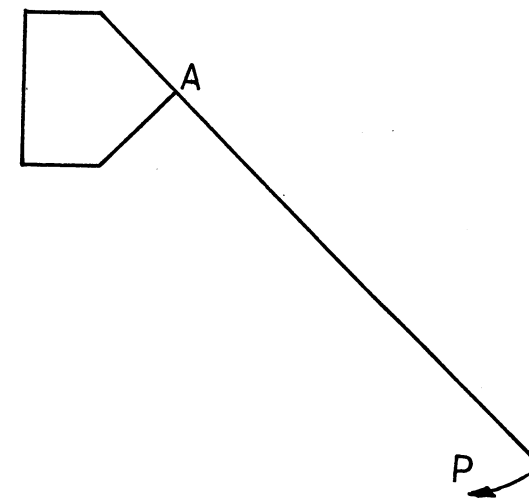

FIG. 2.2
2.2 **Figure 2.2** shows a block . A piece of string is tied at point **A**. Determine the locus of the end of the string if it winds around the block in the direction as indicated by point **P**. Name the locus formed.